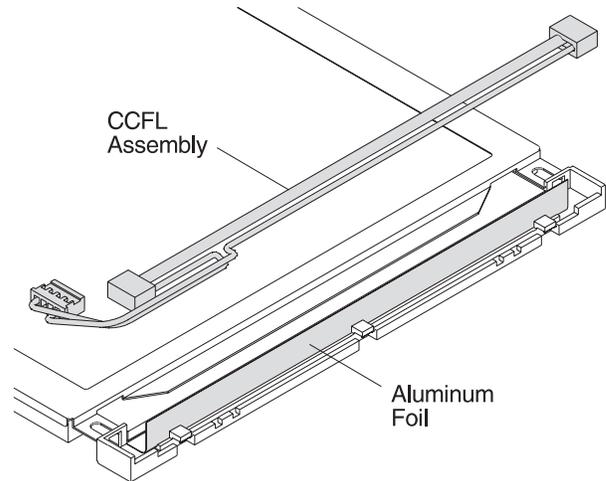

Figure 3-6. Removing the CCFL Assembly
- 5** Carefully lift the CCFL assembly out. See Figure 3-6.